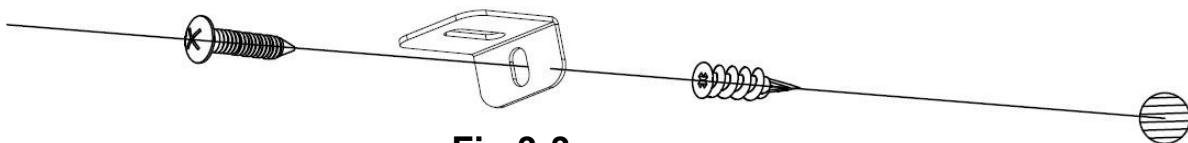

Fig 3-3
C. Install the plastic anchor (C) into the dry wall, then install the screw (B) (supplied) into the hole of the L-bracket into the wall anchor to secure the fireplace from coming off the hooks.(Fig 3-3)